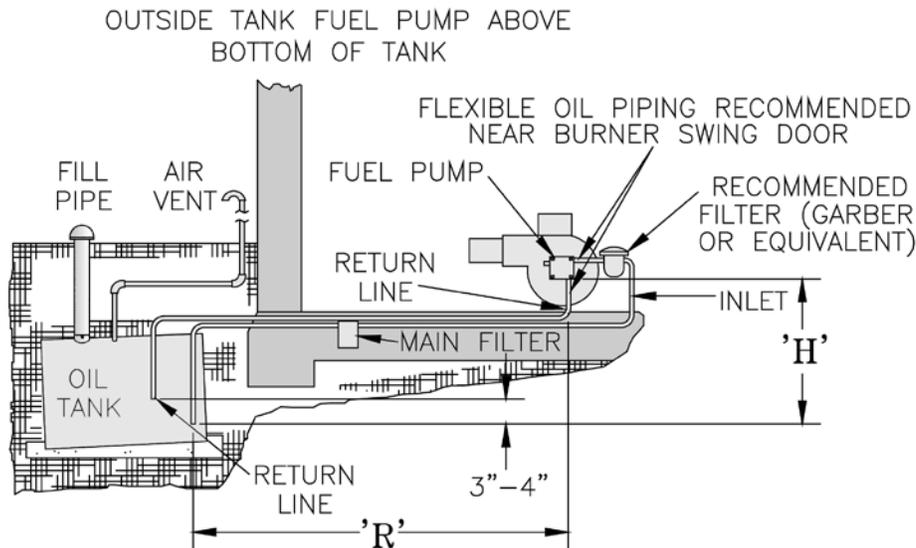

Figure 31: Two Pipe Oil Lines
1. For two piped systems, where more lift is required, the two-stage fuel unit is recommended. Table 8 (two-stage) and Table 9 (single-stage) show allowable lift and lengths of 3/8 inch and 1/2 inch OD tubing for both suction and return lines. Refer to Figure 31.